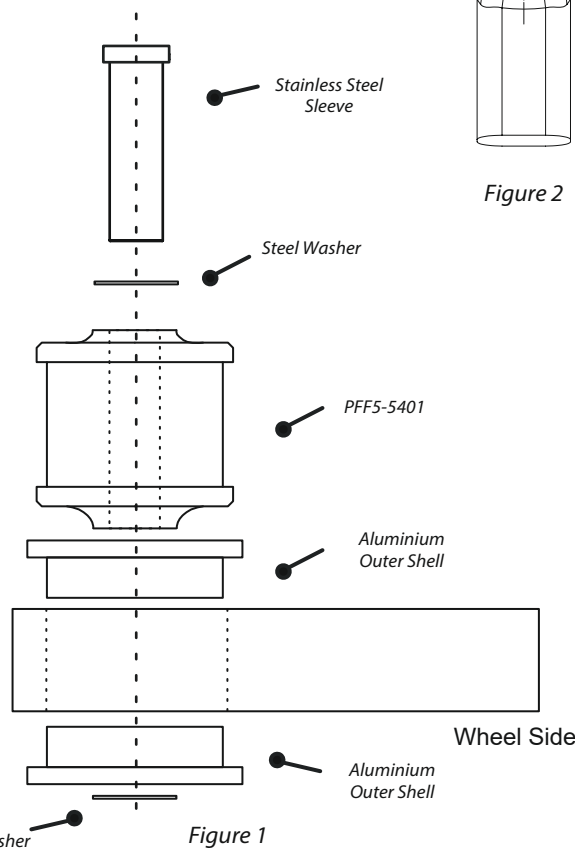

Figure 1
4. Apply some washing up liquid to the bore of the shells and press the polyurethane bush in until fully through the arm. The wider top hat should be facing outwards in the direction of the wheel as shown in Fig. 1